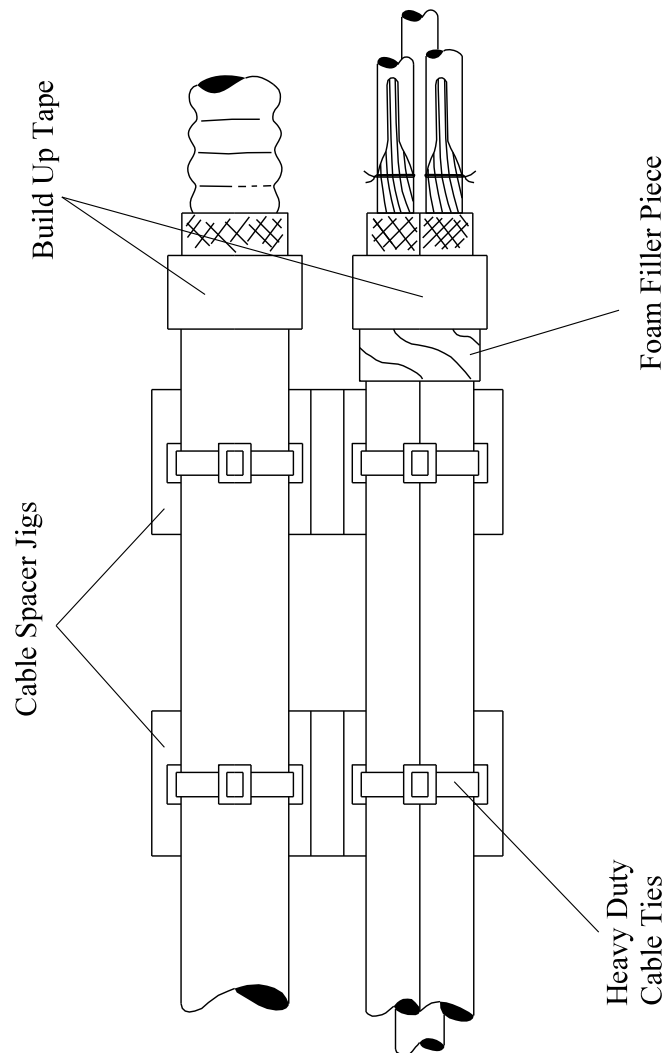

Fig 1
- 2.1 Position a cable spacer jig 100mm from the PVC / MDPE oversheath or armour termination point, secure into position with heavy-duty cable ties – Fig 1.
- 2.2 Position a second cable spacer jig at a distance of 100mm from the first and secure into position with heavy-duty cable ties – Fig 1.